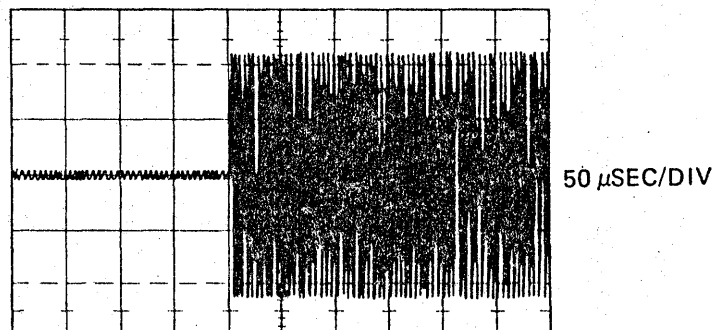

Figure 2-3. Index Pulse and Data Burst
- f. The start of the data burst should lag the negative going edge of the index pulse by 200 μ sec \pm 50 μ sec. (Figure 2-3.)